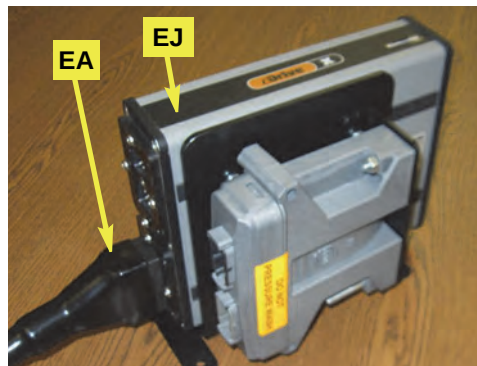

Figure 1d: ECU main cable installed
- f. Connect main cable **EA** to the socket on the ECU **EJ** that is in line with the power and communications indicators at the opposite end of the ECU (**EA** will only fit that socket—the bottom socket in this installation). Use an Allen wrench to secure the cable to the ECU (Figure 1d).